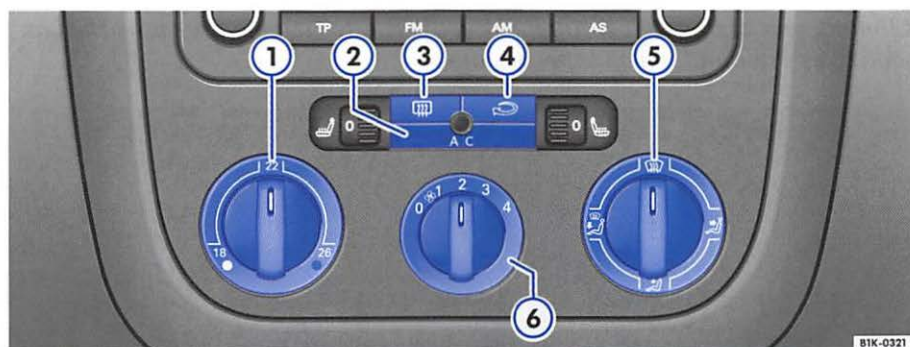

Fig. 73 In the center console: Climatic controls
- Using the controls ⇒ fig. 73 ①, ⑤ and ⑥ you can set the temperature, air distribution and the fan speed.
- To switch a function on or off, press the appropriate button ② to ④. When a function is switched on a light in the button comes on.
- ① Temperature ⇒ page 76
- ② **AC** button – switch on / off air conditioning. When the indicator light in the button comes on, this means the air conditioning is switched on. When the indicator light in the button goes out, the air conditioning switches off to save fuel. At low outside temperatures and with the air conditioning switched off, heating performance will be less after the engine is started.
- ③ Button rear window defogger with engine running – The rear window defogger